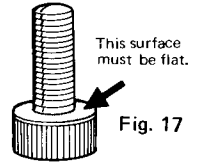

Fig. 17
9. Check **PISTON CAP SCREWS** for erosion at the sealing area (under the cap screw head). (Fig. 17)